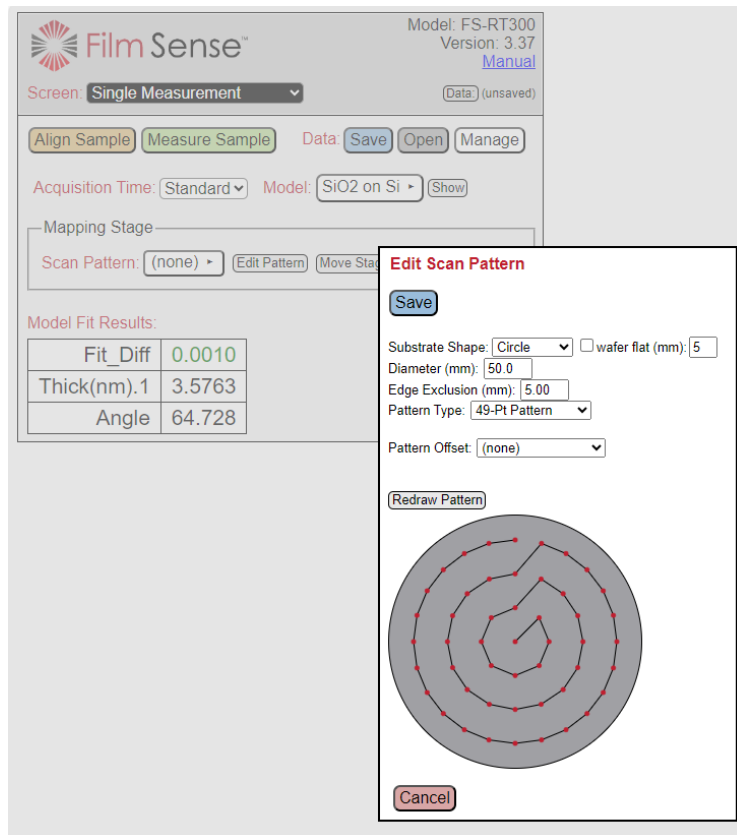

Figure 7: Edit Scan Pattern window
13. Set the **Scan Pattern**. If set to **(none)** the measurements will be performed without moving the stage. The scan pattern is edited by clicking the **Edit Pattern** button (see fig.7).